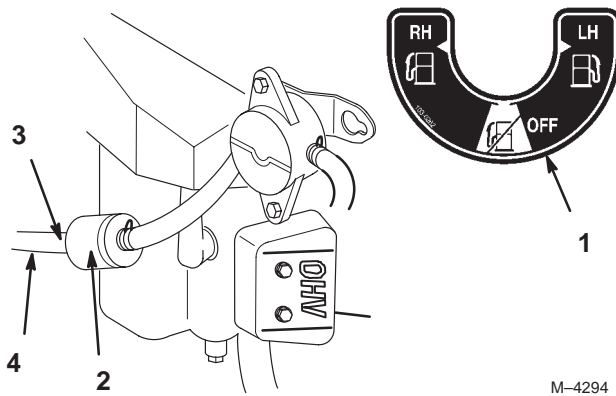

Figure 39
5. Install a new filter and move the hose clamps close to the filter (Fig. 39).
2. Close the fuel shut-off valve (Fig. 39).
3. Loosen the hose clamp at the fuel filter and slide it up the fuel line away from the fuel filter (Fig. 39).
4. Pull the fuel line off of the fuel filter (Fig. 39).
5. Open the fuel shut-off valve for the left and right tanks. Allow gasoline to drain into a gas can or drain pan (Fig. 39).
6. Install the fuel line onto the fuel filter. Slide the hose clamp close to the fuel filter to secure the fuel line (Fig. 39).